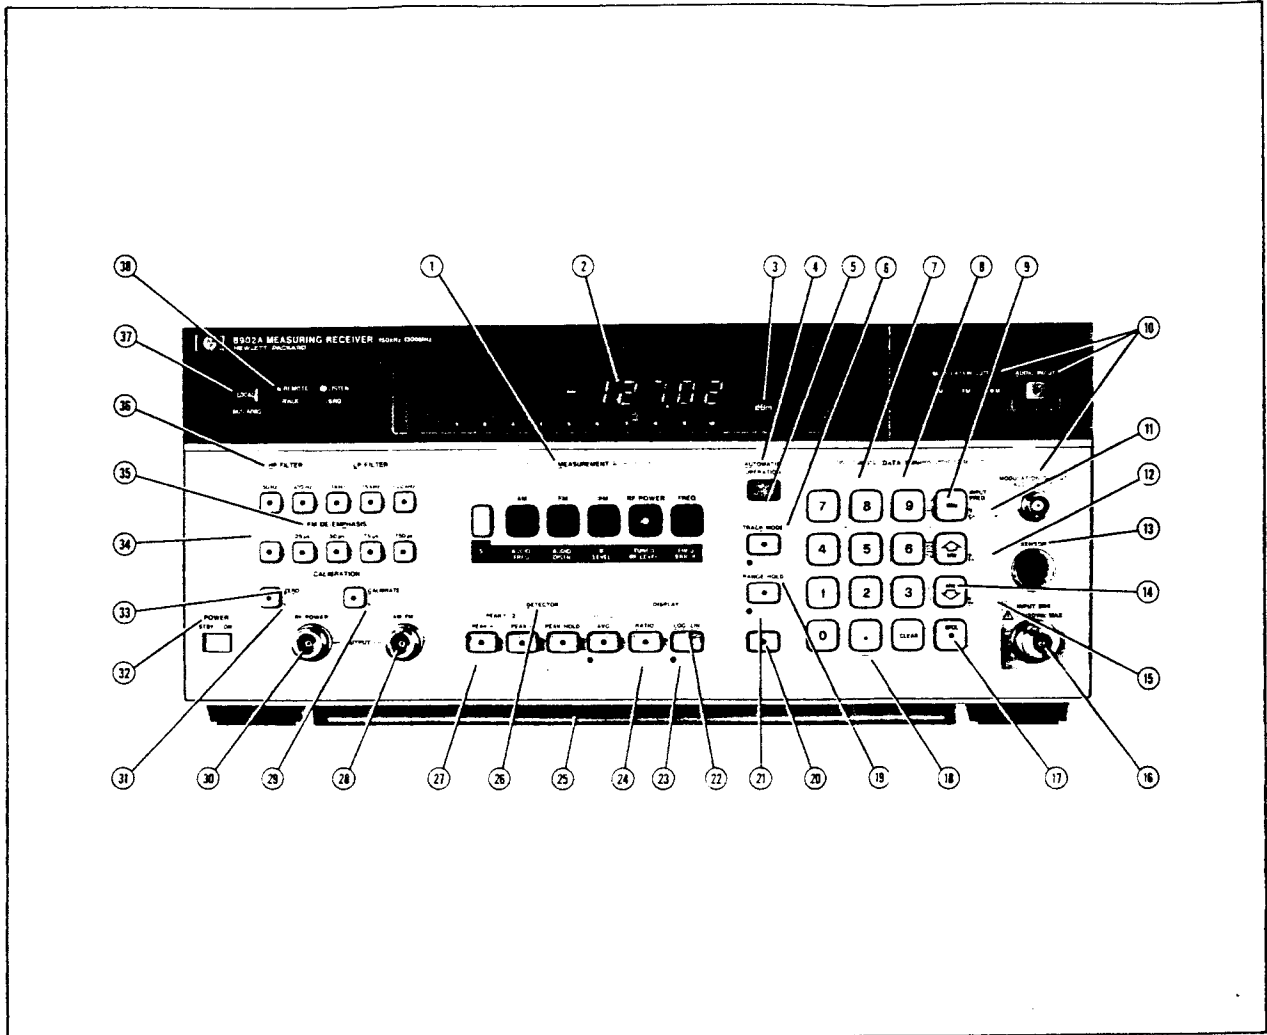

Figure 3-1. Front-Panel Features
- ① **AM OUTPUT** produces an ac signal, whose amplitude is proportional to the AM depth, with a dc component related to the IF level. The output is dc coupled with a 16 kHz bandwidth and a 10 kohm output impedance. (AM Output)
- ② **FM OUTPUT** produces an ac signal, whose amplitude is proportional to the FM deviation, with a dc component related to the IF frequency. The output is dc coupled with a 16 kHz bandwidth and a 10 kohm output impedance. (FM Output)
- ③ **RECORDER OUTPUT** allows user-access to all internal measurement voltages. (Recorder Output)
- ④ **IF OUTPUT** produces a 150 kHz to 2.5 MHz modulated IF signal. The output level ranges from -27 to -3 dBm (50 ohm output impedance). (IF Output)
- ⑤ **TIME BASE 10 MHz OUTPUT and INPUT.** The input connector provides an input for an external 10 MHz time base reference. The external input signal must be greater than 0.5V peak-to-peak (into a 500 ohm input impedance). The output connector provides an output for the internal, high-stability 10 MHz reference. Output signal is TTL compatible (50 ohm nominal output impedance). (Time Base 10 MHz Input and Time Base 10 MHz Output)
- ⑥ **MODULATION OUTPUT/AUDIO INPUT** is a rear-panel output and input supplied on Option 001 instruments instead of the standard, front-panel connection. Refer to MODULATION OUTPUT/AUDIO INPUT in Figure 3-1.
- ⑦ **SENSOR** is a rear-panel input for the power sensor supplied on Option 001 instruments instead of the standard, front-panel connection. See SENSOR in Figure 3-1.
- ⑧ **INPUT** is a rear-panel input for the RF input signal. This input is supplied on Option 001 instruments instead of the standard front-panel connection. See INPUT in Figure 3-1.
- ⑨ **Fuse.** 2 1/2 Amp (250V, Normal Blow) for 100/120 Vac.